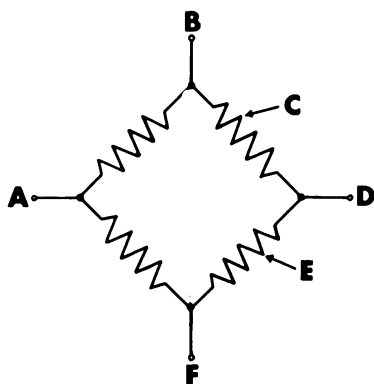

Figure 4E.—Bridge network consisting of four identical resistors
46. With no electromotive force applied to the network in figure 4E, the voltage between any two points in the circuit will of course read zero. If a voltage is applied between points B and F, the voltage will still read zero between points
47. Suppose that the bridge network in figure 4E is to be used as a pick-off device. If the input voltage is still applied between points B and F, an output voltage should normally be taken between points